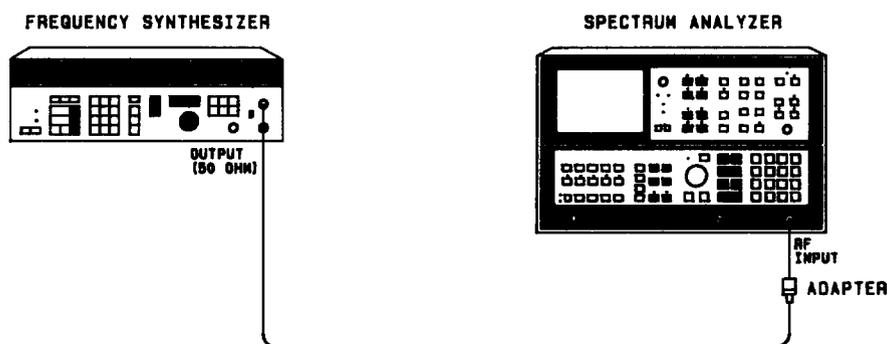

FIGURE 9. IF GAIN UNCERTAINTY TEST SETUP
6. Connect the equipment as shown in Figure 9.